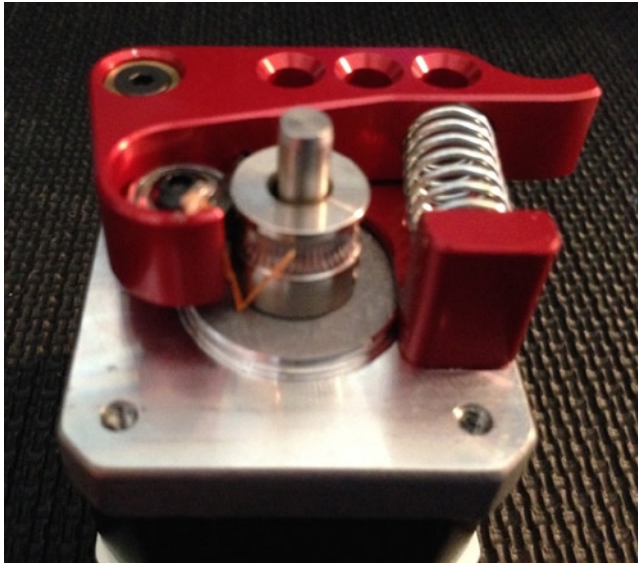

Figure 9-10. *Cleaning the extruder drive pulley: MakerBot Replicator 2*
Next, we remove the stepper motor and examine the filament drive pulley. Remove any loose debris with a vacuum. If there are any bits of plastic stuck in the drive pulley, use a toothpick or sharp hobby knife to remove them and vacuum again. Figure 9-10 shows a filament drive gear in need of cleaning.
■ **Note** The idler shown in Figure 9-10 is an aluminum upgrade, which I will discuss in Chapter 11. It is one of the best upgrades I've found. So much so that I've installed it on my MakerBot Replicator 1 Dual and Replicator 2/2X.